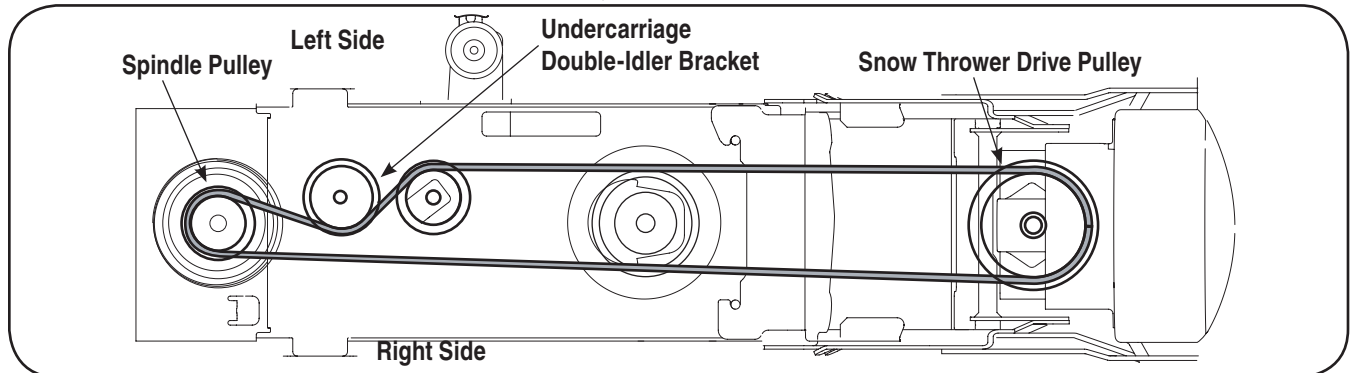

Figure 3-20
1. Attach and route the lower drive belt around the lower pulley on the spindle assembly, both pulleys on the double-idler bracket found beneath the undercarriage, and the drive pulley found on the rear of the snow thrower housing as illustrated in Fig. 3-20.